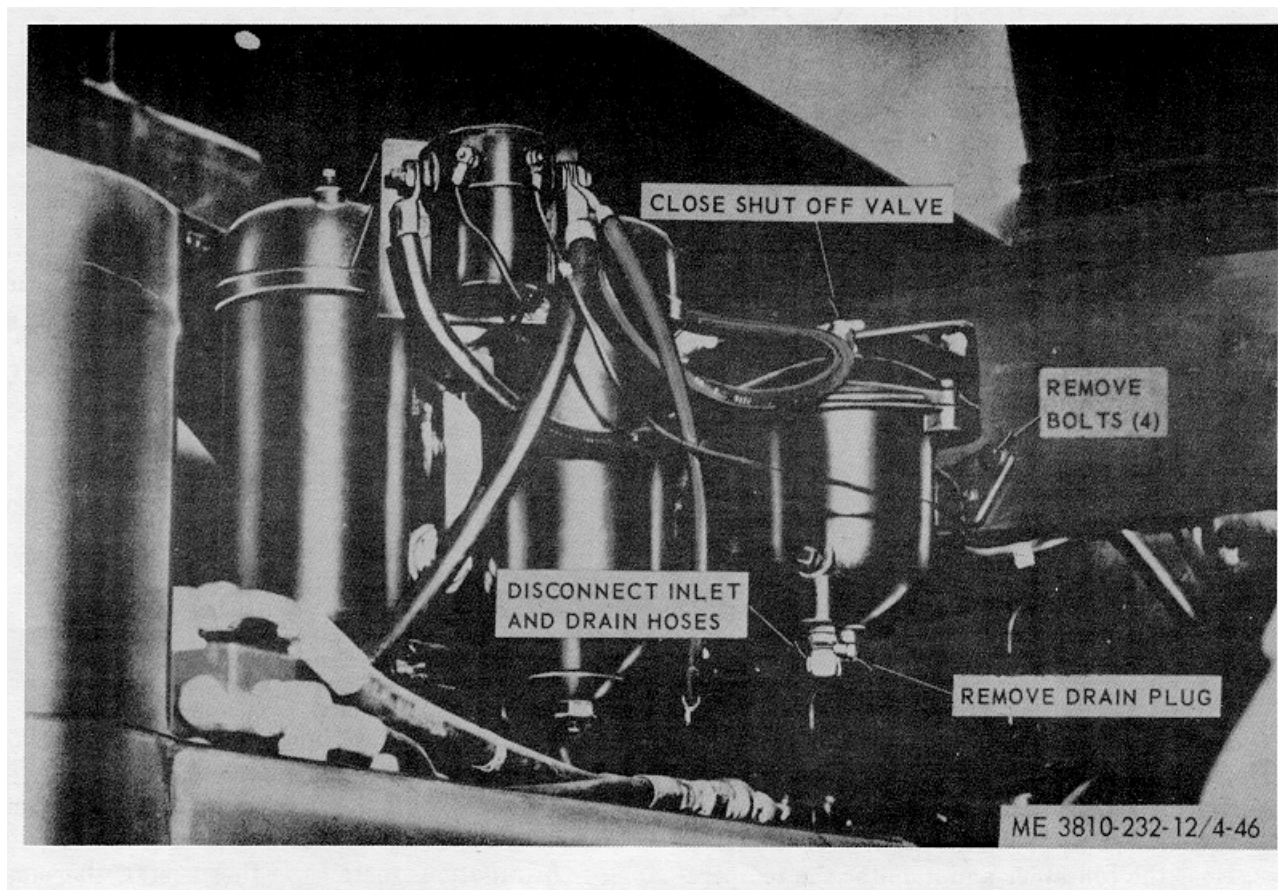

Figure 4-46. Carrier engine cooling system water filter removal and installation.
(2) Install water filter as illustrated in figure 4-46.
(3) Open the shut-off cock.